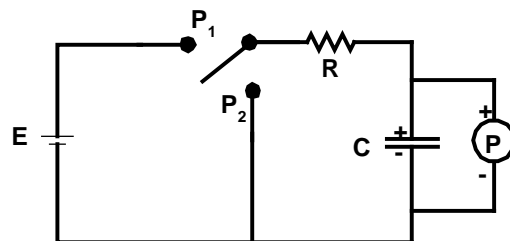

Fig. 5: Circuit Set up
For this experiment, you will need two resistors (both are provided in duplicates), a known capacitor, a masked capacitor, the Vernier power supply and probes, a circuit board and wires. The circuit to be constructed should look like the diagram in Fig 5. We will use the Vernier LabPro interface as both the power supply and the voltage measuring device.
4. Connect the larger of the two resistors, the known capacitor, and switch (in the open position) as shown in Figs 5, 6 and 7. Make sure that the capacitor is connected to the negative terminal of the Vernier power supply. Connect the Vernier voltage probe across the capacitor, with the negative terminal of the probe on the negatives side of the capacitor.